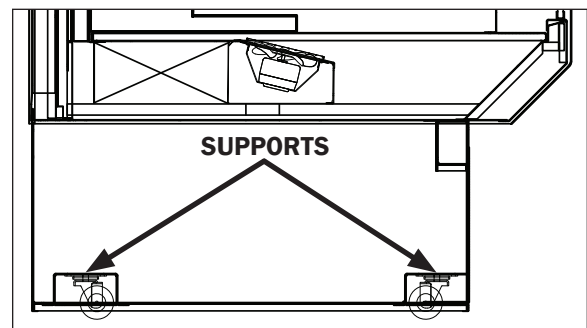

Fig. 2 Vertical (caster) supports (HSC-SC)
7. Locate horizontal or vertical (caster) support positions along the chalk line (Fig. 2 & 3). Spot properly leveled shim packs at each support location.